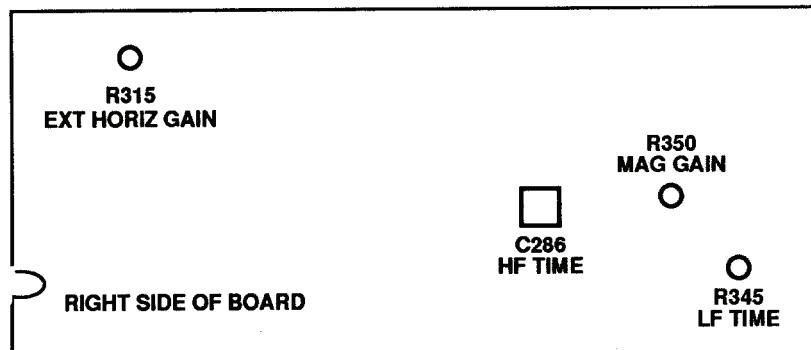

Figure 3. Test instrument - adjustment locations.
- (1) Connect oscilloscope calibrator **SOURCE/MEASURE CHAN 1** to **TI EXT HORIZ AMP**.
- (2) Set oscilloscope calibrator **VOLTAGE** output for 0.5 V, 1 kHz.
- (3) Adjust TI **POSITION** control to position dots to the extreme right and left vertical graticule lines.
- (4) Adjust dual trace amplifier **CH 1 POSITION** control to vertically center the dots.
- (5) Adjust oscilloscope calibrator **EDIT FIELD** knob for 10 divisions of horizontal deflection on oscilloscope. If oscilloscope calibrator **err** display does not indicate within $\pm 3\%$, perform **b** below.
- b. Adjustments.** Adjust oscilloscope calibrator **EDIT FIELD** knob for a 0.0% **err** display indication. Adjust R315 EXT HORIZ GAIN (fig. 3) for a 10 division horizontal deflection on oscilloscope (R).
(1) Release TI **SWP MAG** pushbutton (out), set **SECONDS/DIV** switch to **1 m** and oscilloscope calibrator **MARKER** output for **1 mS/D**. If necessary, adjust oscilloscope calibrator **EDIT FIELD** knob for a **0.0%** **err** display indication.
(2) Adjust TI **POSITION** control to align 1st time marker with 1st vertical graticule line (extreme left). Adjust R345 LF TIME (fig. 3) to align one time marker per division (R).
(3) Press TI **SWP MAG** pushbutton and adjust TI **POSITION** control to align 1st time marker with 1st vertical graticule line (extreme left). Adjust R350 MAG GAIN (fig. 3) to align one time marker per division (R).
(4) Release TI **SWP MAG** pushbutton (out), set **SECONDS/DIV** switch to **.5 μ** and set oscilloscope calibrator **MARKER** output for **0.5 μ S/D**.
(5) Adjust TI **POSITION** control to align 1st time marker with 1st vertical graticule line (extreme left). Adjust C286 HF TIME (fig. 3) to align one time marker per division (R).